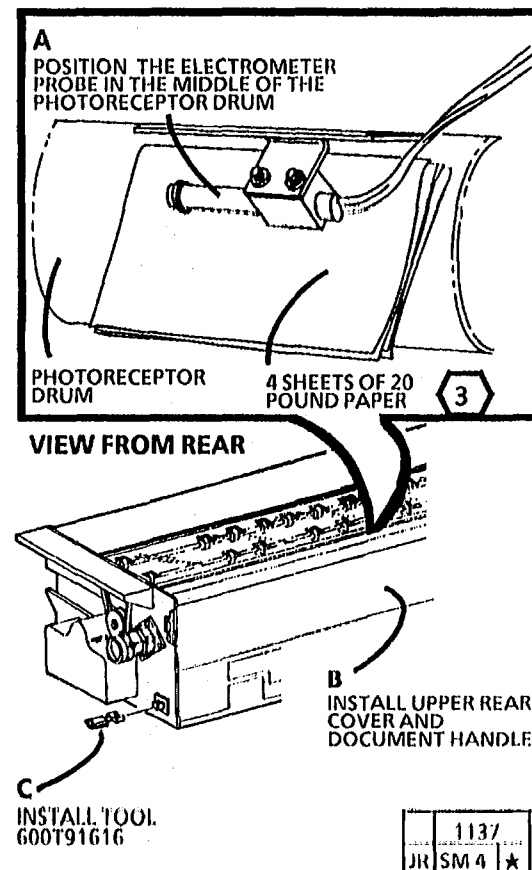

Figure 2. Install the Electrometer Probe (continued)
6. (Figure 2): Install the probe holder containing the probe on the copier frame.